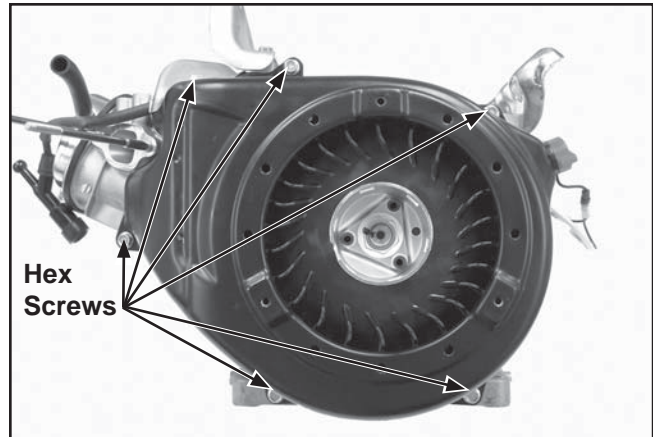

Figure 11-72. Install Blower Housing.
2. Install the blower housing on the crankcase with the hex flange screws. Torque screws to $10 \text{ N}\cdot\text{m}$ (89 in. lb.). See Figure 11-72.